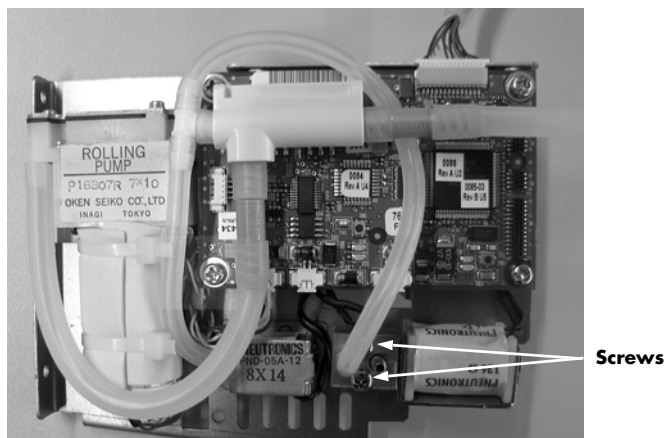

FIGURE 4-37 Remove two (2) screws.
3. Remove the two (2) screws as shown in FIGURE 4-37.